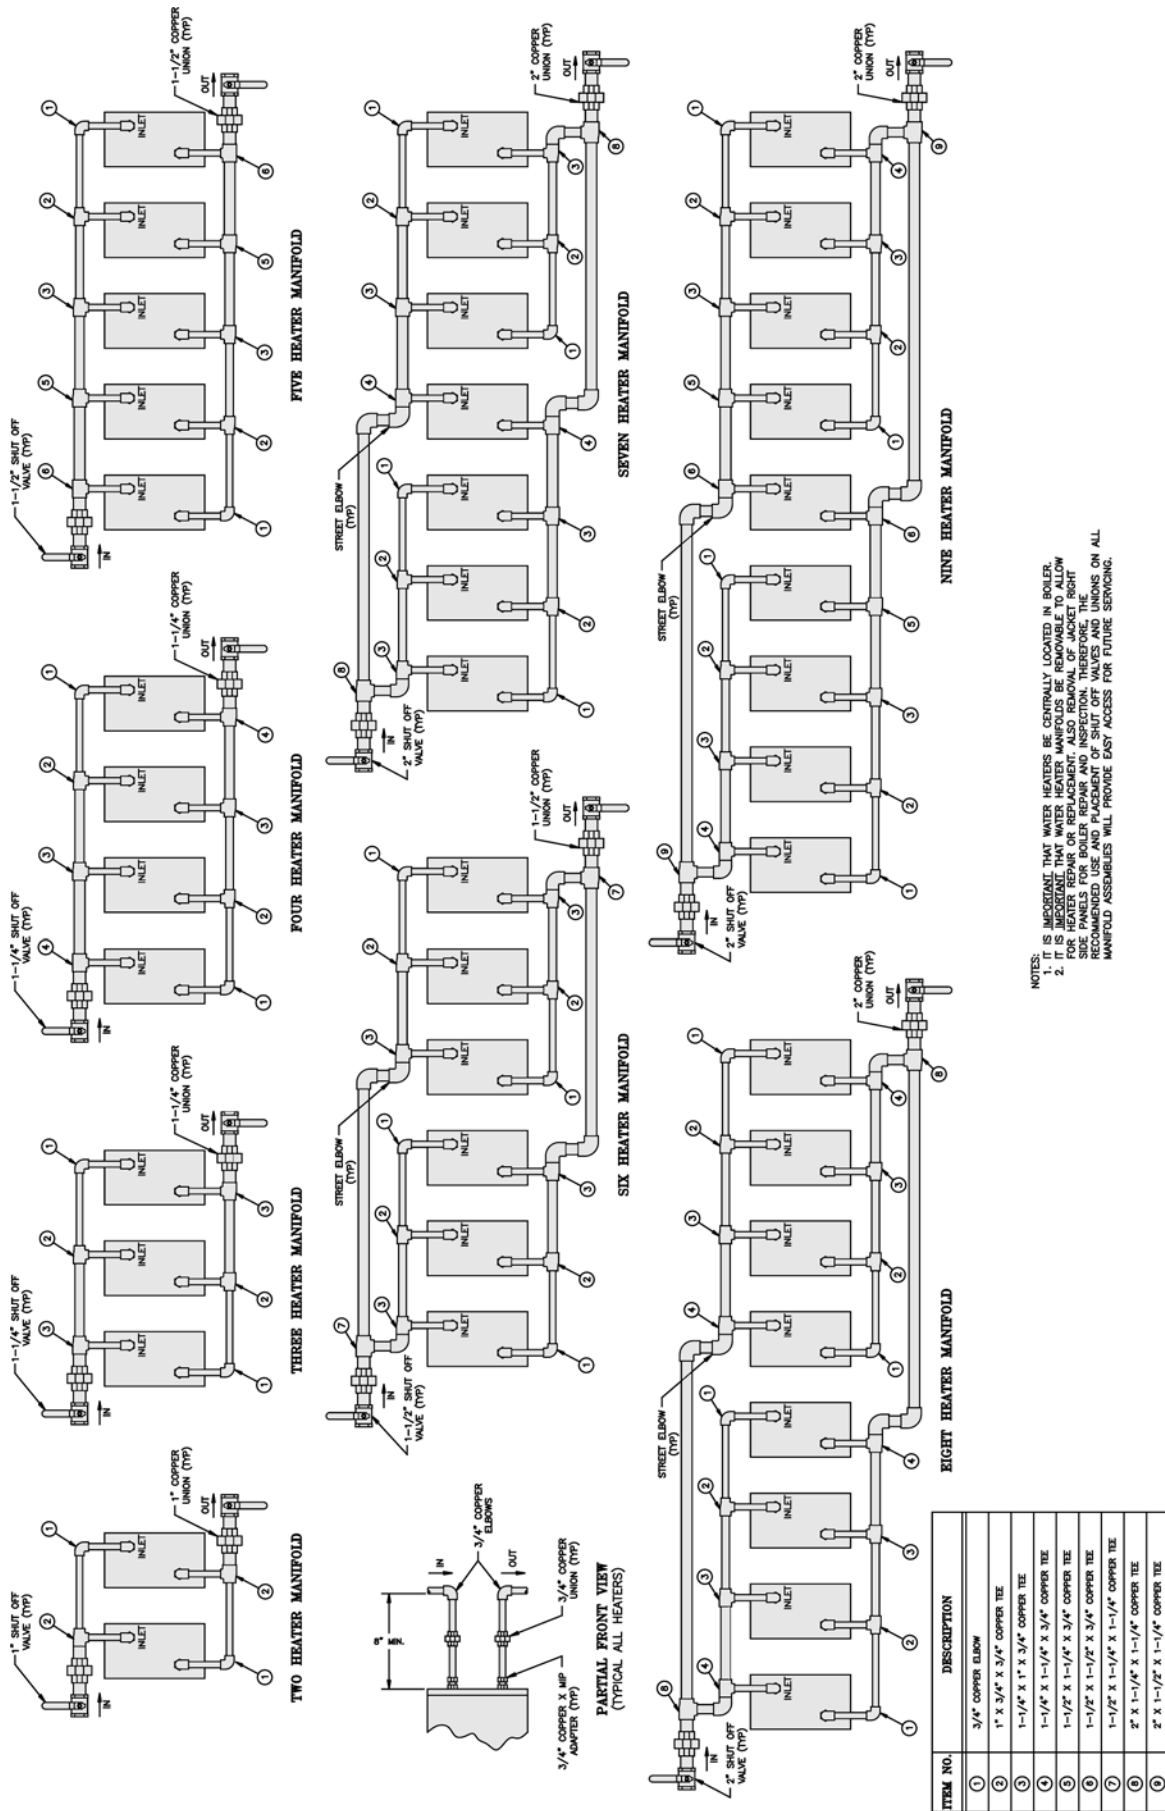

Figure 28: Minimum Piping Recommendations for V11 Series Tankless Heater Manifolds
7. **For boilers with tankless heaters**, install the tankless heater manifolds according to Figure 28.